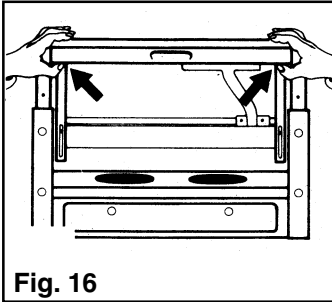

Fig. 16
- Remove the internal cover pressing both unlocking devices (press and pull). **Fig. 16.**